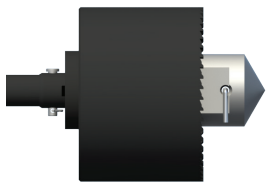

Figure 14
2.7.1) Insert 2.5" centering tool into pilot bit hole, align through-hole with saw mandrel through-hole, and lock in place with cotter pin and clip (see Figure 14).